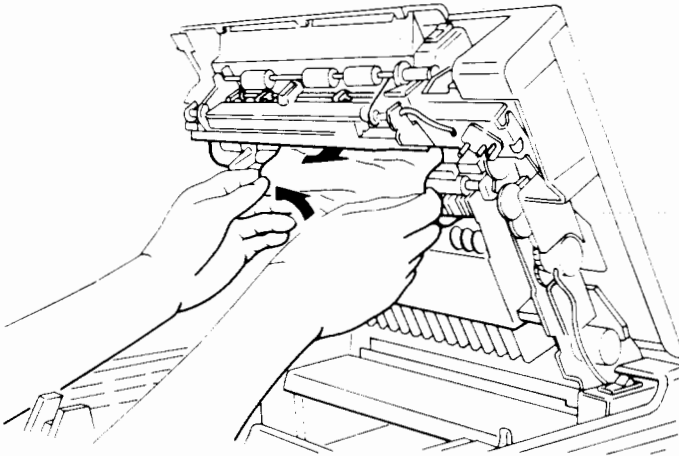

Figure 8-1 Removing jammed paper
2. Open the top cover and find where the jam has occurred. For a jam before the heat roller, pull out the paper as shown in Figure 8-1.